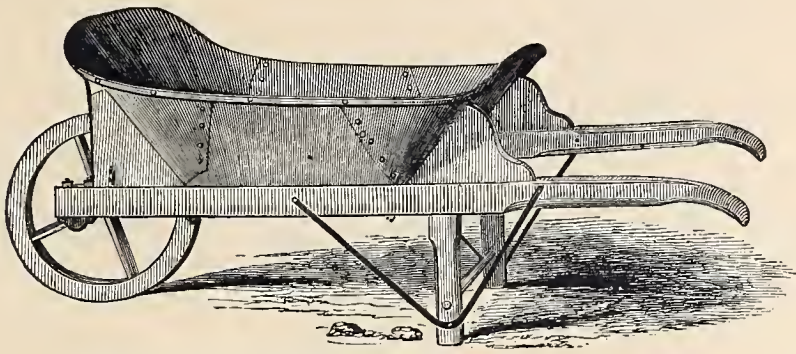

Fig. 530. — Extra Iron-Tray Coal-Barrow.
*The Extra Iron-Tray Coal-Barrow*, represented by *Fig. 530*, is for the same uses as the *WOOD-TRAY BARROW*. It is preferred where hot ashes are to be carried. It is made very strong, yet is light, and readily handled.